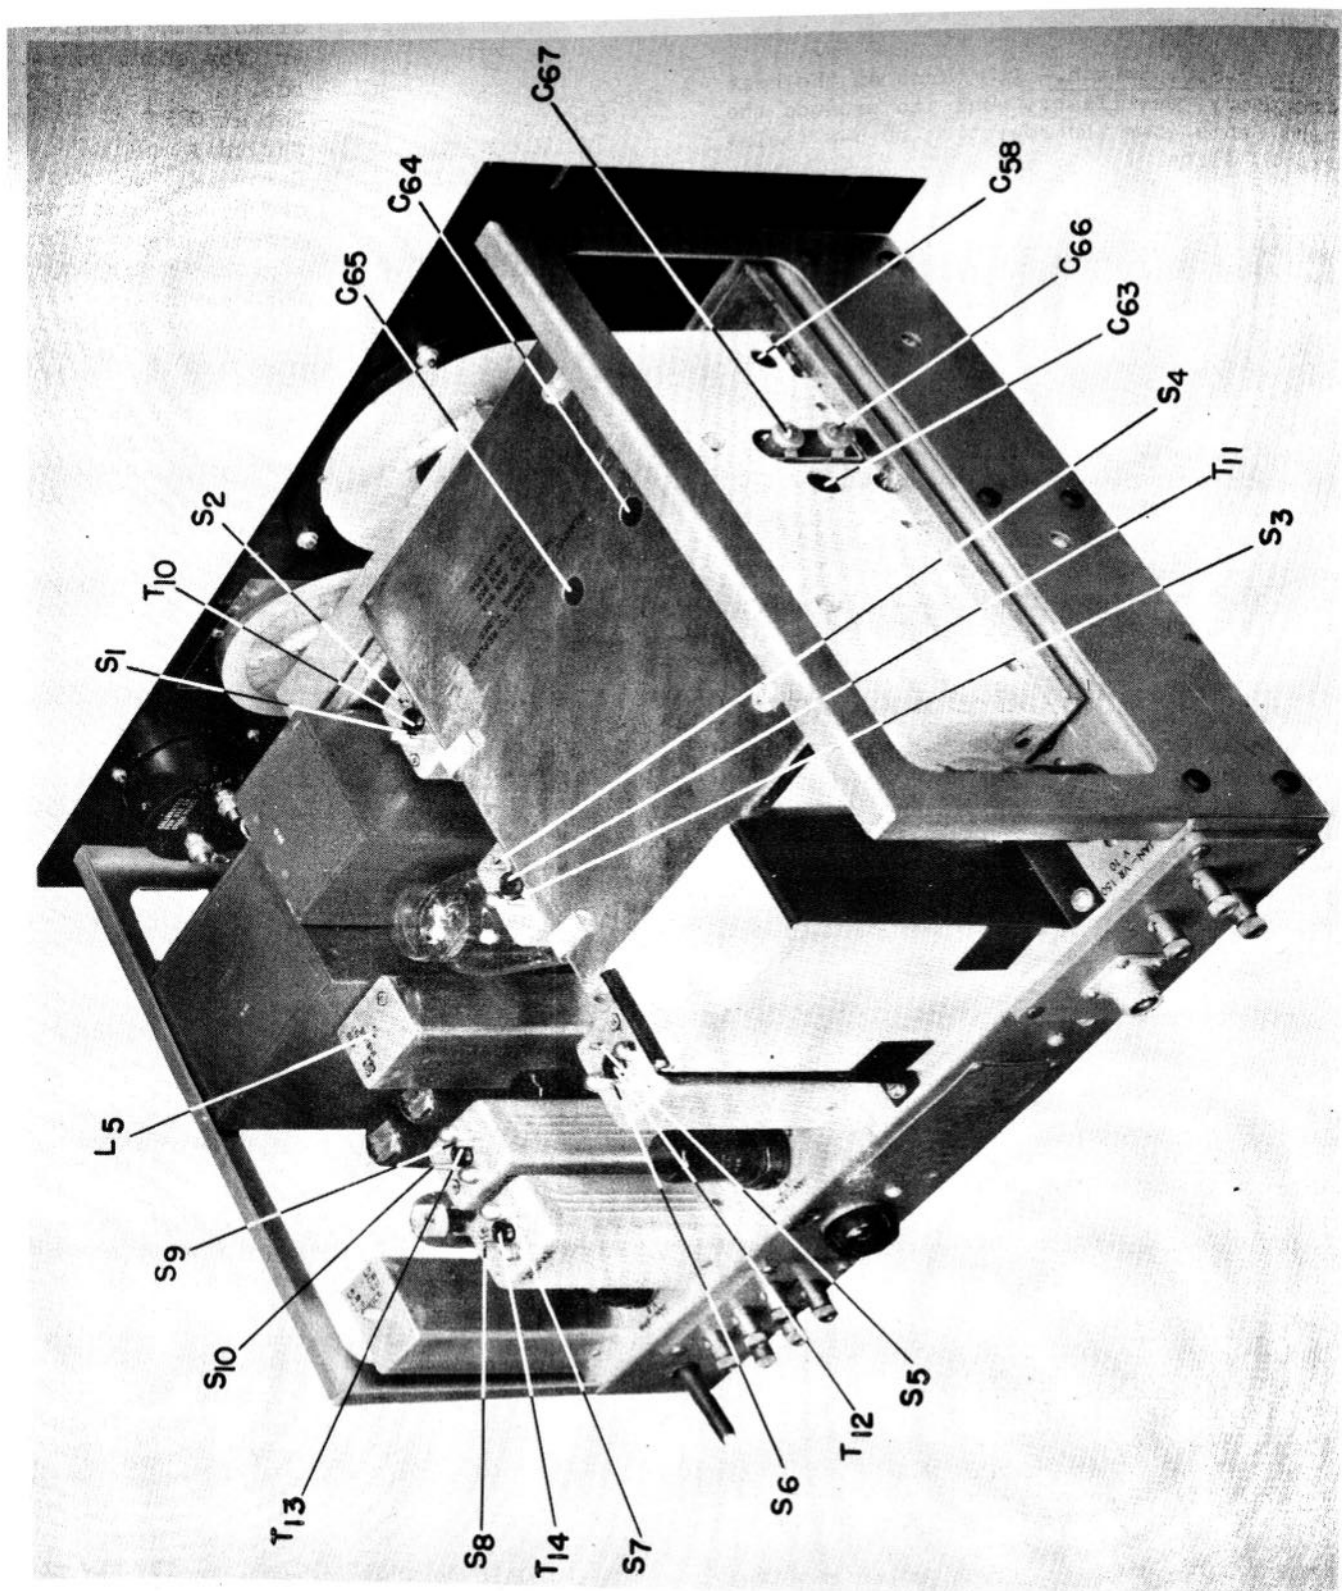

Figure 8. Radio Receiver CHL-46130-C, Top View Showing Alignment Points
(3) Set the signal generator frequency at 5.25 MC. and with the 400 cycle modulation turned on, align transformer T_{10} , T_{11} , T_{12} and T_{13} by adjusting the slug adjustment screws S_1 , S_2 , S_3 , S_4 , S_5 , S_6 , S_9 and S_{10} . Refer to figure 8 for location of these adjustment screws. A bakelite screw driver with a metal or insulated tip is necessary of accurate alignment.
(4) Repeat the alignment procedure at least once to insure an accurate alignment.
(5) The discriminator transformer T_{14} is aligned as follows:
d. R-F ALIGNMENT.- Refer to figure 8 for location of alignment controls.
(1) Connect the signal generator to the antenna terminals A₁ and A₂ and wire the dummy antenna resistor (50 ohm noninductive resistor) across the generator terminals. Connect the output meter to the speaker terminals.
(2) Set the controls on the receiver as for i-f amplifier alignment. Refer to paragraph D-3. b. (2).
(3) Turn on 400 cycle tone modulation on the signal generator.
(4) Align the three bands as follows: